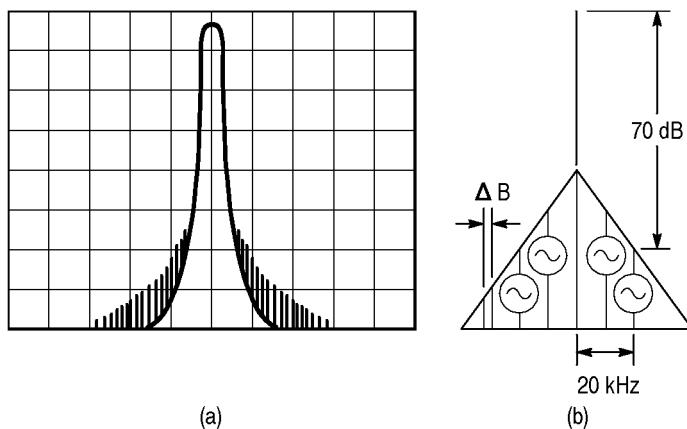

Figure A-6 Noise Sidebands
**Example** Suppose the noise level measured in the resolution bandwidth of 1 kHz is -70 dB at 20 kHz apart from the carrier. The noise level is normally expressed by the energy contained in the 1 Hz bandwidth (Figure A-6 (b)). With a bandwidth of 1 Hz, the following applies: Since the value is -70 dB when the bandwidth is 1 kHz, the signals within the 1 Hz bandwidth will be lower than this by about  $10 \log 1 \text{ Hz}/1 \text{ kHz}$  [dB], or about 30 dB. Consequently, it is expressed as -100 dBc/Hz at 20 kHz apart from the carrier when the resolution bandwidth is 1 kHz.